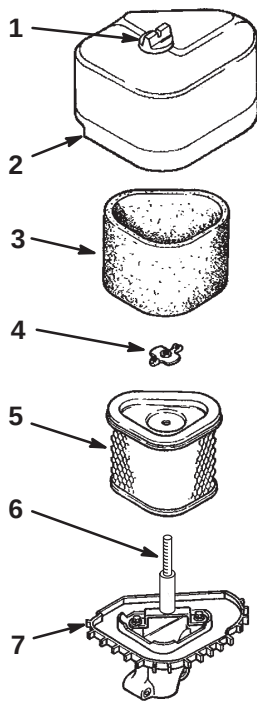

Figure 26
2. Clean around the air cleaner to prevent dirt from getting into the engine and causing damage. Unscrew the knob and remove the air cleaner cover (Fig. 26).
3. Remove the wing nut and slide the foam and paper air cleaner assembly off of the stud (Fig. 26).
4. Carefully slide the foam element off of the paper element (Fig. 26).
1. Carefully slide the foam element onto the paper air cleaner element (Fig. 26).
2. Place the air cleaner assembly onto the air cleaner base (Fig. 26).
3. Install the air cleaner cover and secure it with the cover nut (Fig. 26).